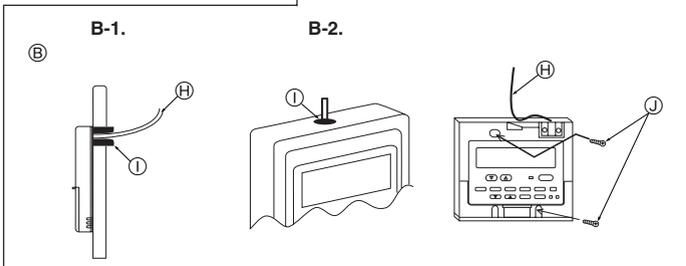

Fig. 6-3
- ① Remote controller profile
- ② Required clearances surrounding the remote controller
- ③ Installation pitch
(2) Seal the service entrance for the remote controller cord with putty to prevent possible invasion of dew drops, water, cockroaches or worms. (Fig. 6-3)
① For installation in the switch box:
② For direct installation on the wall select one of the following: